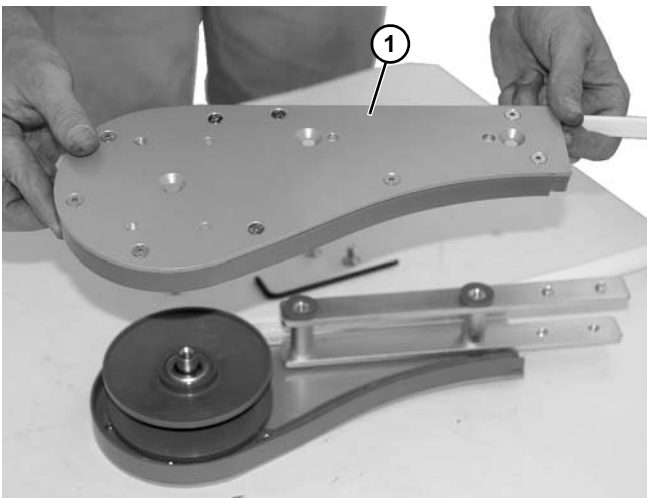

Figure 71
2. Remove the head plate (Figure 71, item 1) from the idler end.